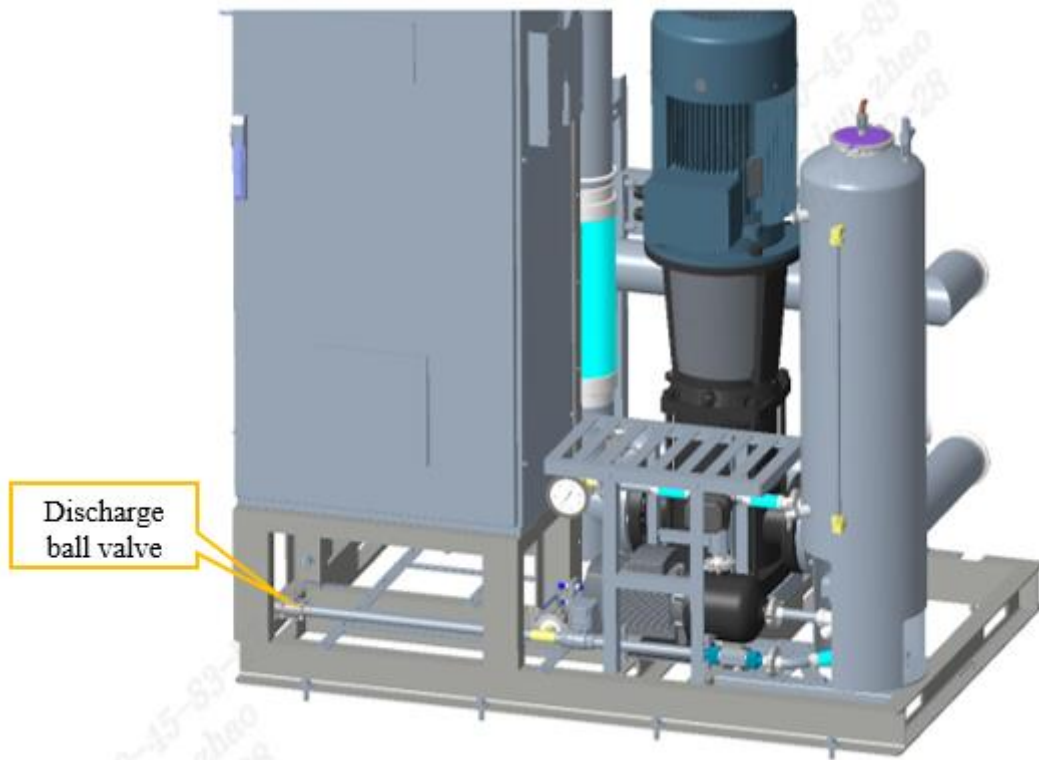

Figure 9-3 Location of discharge ball valve in pump station
- a. Find the position of the discharge valve (Figure 9-3).
- b. Connect the drain hose to the drain ball valve and tighten it with a hose clamp; Guide the hose outside the equipment and open valve V202 (Figure 9-3) to drain the system.